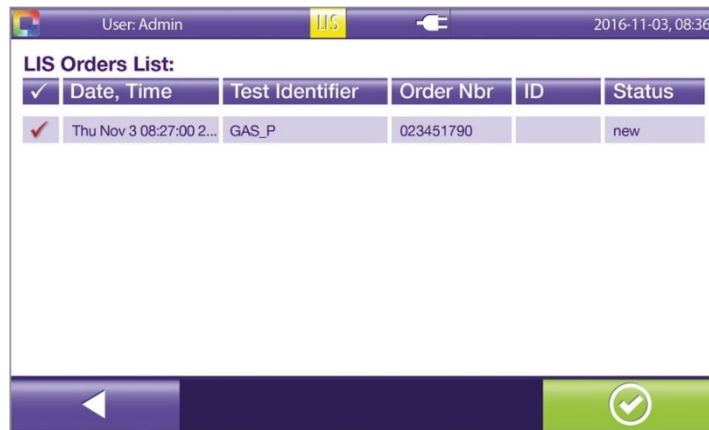

Figure 52
- Touch the first column of the row with the relevant order (**Figure 52**). A checkmark appears next to the selected LIS order.